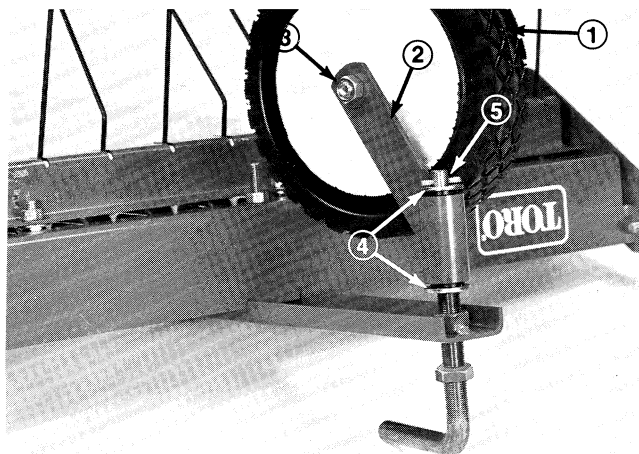

Figure 6
8. Mount caster wheel to caster wheel bracket with wheel bolt, washer (between bracket and wheel) and locknut (Fig. 6). Slide washer and wheel bracket assembly onto caster adjustment handle, and secure with washer and cotter pin (Fig. 6).